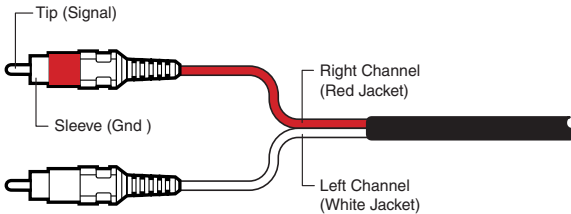

Figure 1-4 — RCA audio connectors
- ④ **Audio input RCA connectors (RCA and AAP models)** — Connect an unbalanced stereo audio source to these L(ef) and R(ight) RCA connectors (Figure 1-4).